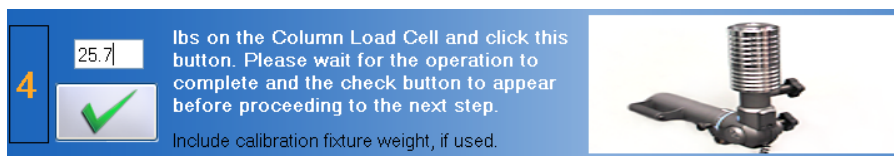

Figure 9-30. Column Load Cell - Set the Weight
Step 4. Place both calibration weights on the calibration fixture and type **25.7** (calibration fixture plus calibration weight) in the text field (Figure 9-30).
Step 5. Click on  to set the weight (Figure 9-30).